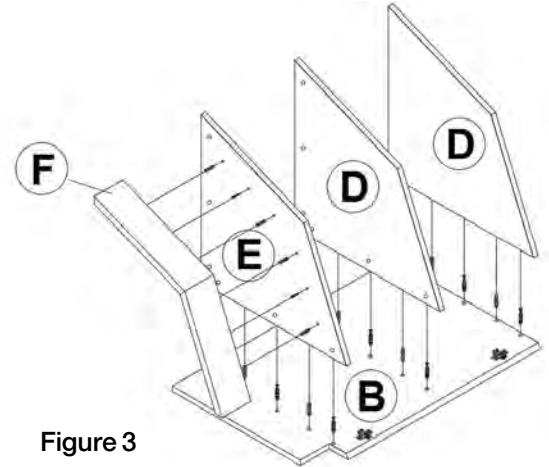

Figure 3
3. Install metal male cam locks (e) into designated holes on side panel (B) and bottom panel (E). Use screwdriver to tighten. Install the wooden dowels (f) into designated holes. (Figure 3)
4. Install the two toe kicks (F) onto bottom panel (E). (Figure 3)
5. Install top panel (D), bottom panel (E), & shelf (D) onto the right side panel (B). (Figure 3)